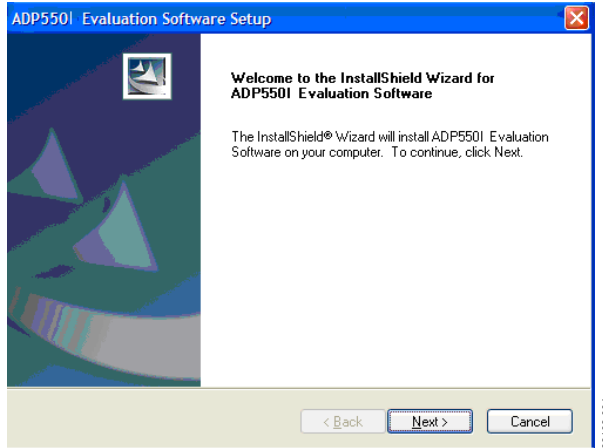

Figure 4. ADP5501 Evaluation Software
2. When the InstallShield welcome box appears (as shown in Figure 4), click **Next** to continue the installation.